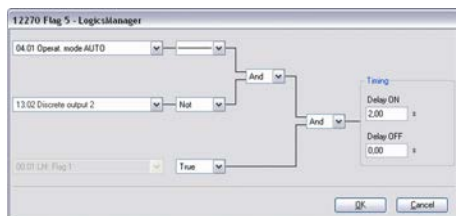

Fig. 192: LogicsManager function "Flag 5"
- ➔ Configure the LogicsManager function "Flag 5" as shown in (Fig. 192).